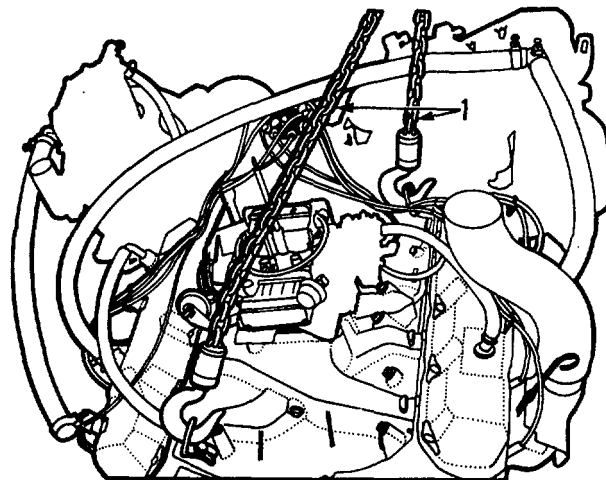

Fig. 9 Engine Lifting Sling
25. Install lifting sling, Figure 9.